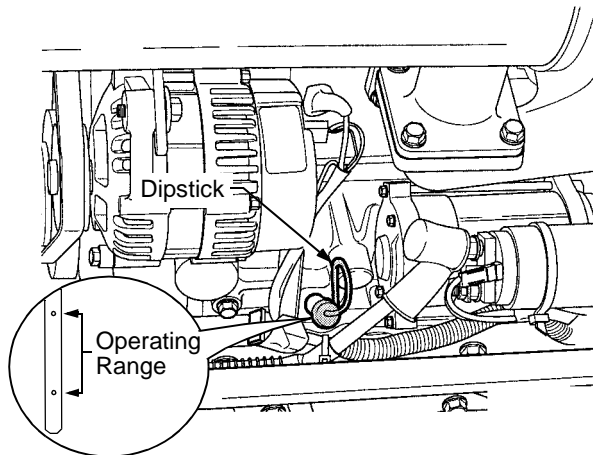
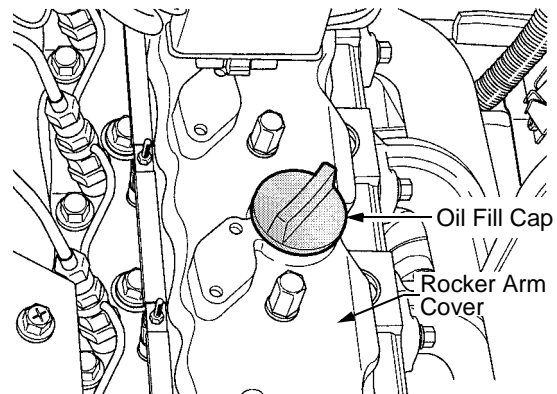

Figure 54
Figure 55
- Clean the area around the dipstick to prevent debris from entering the crankcase; then withdraw the dipstick from the engine and wipe clean. See Figure 54.
- Remove the dipstick and oil fill cap from the engine. Refer to Figure 54 and Figure 55.